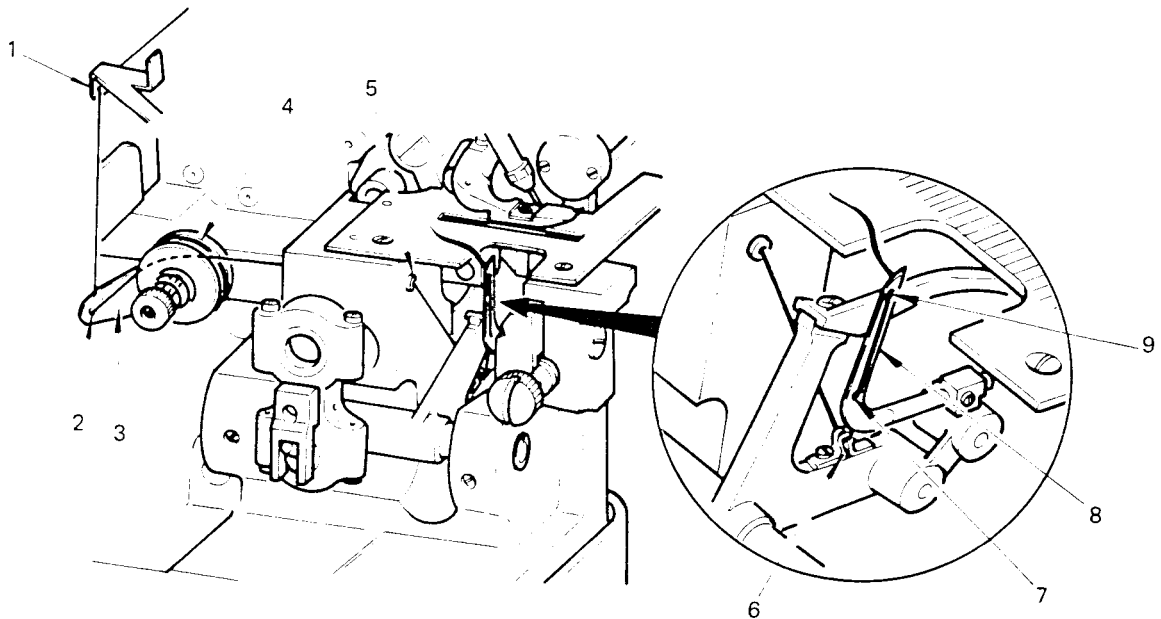

Fig. 9
10. TO THREAD THE LEFT HAND LOOPER (See Fig. 9)